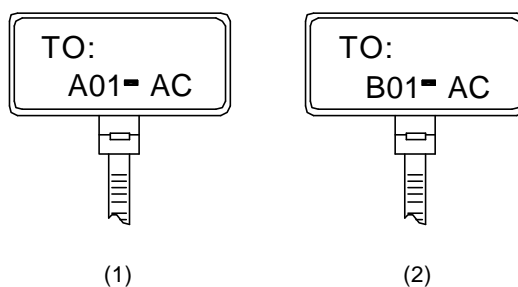

Figure E-16 Example of the labels on the AC power cable
Make sure that labels are affixed in correction direction. That is, after the cable ties are bundled onto the cable, the identification plates with the labels should face up, and the text on the labels in the same cabinet should be in the same direction, as shown in Figure E-16:
In Figure E-16, (1) indicates the label on the baded cabinet side, which carries the information about the position of the cable on the power socket. (2) indicates the label